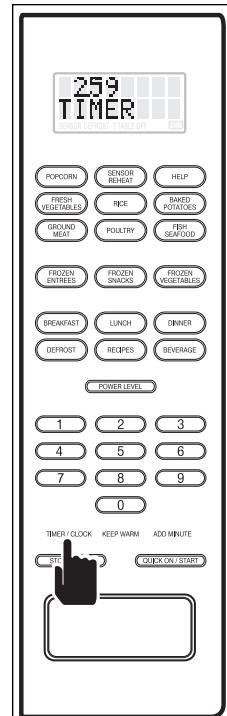

Figure 3-27.
4. After the amount of time is entered, press the TIMER/CLOCK key to begin the timer countdown (See Figure 3-27). At the end of the countdown, the display will show "TIMER IS FINISHED" and the alarm will beep. Push the STOP/CLEAR key to return to normal operation.